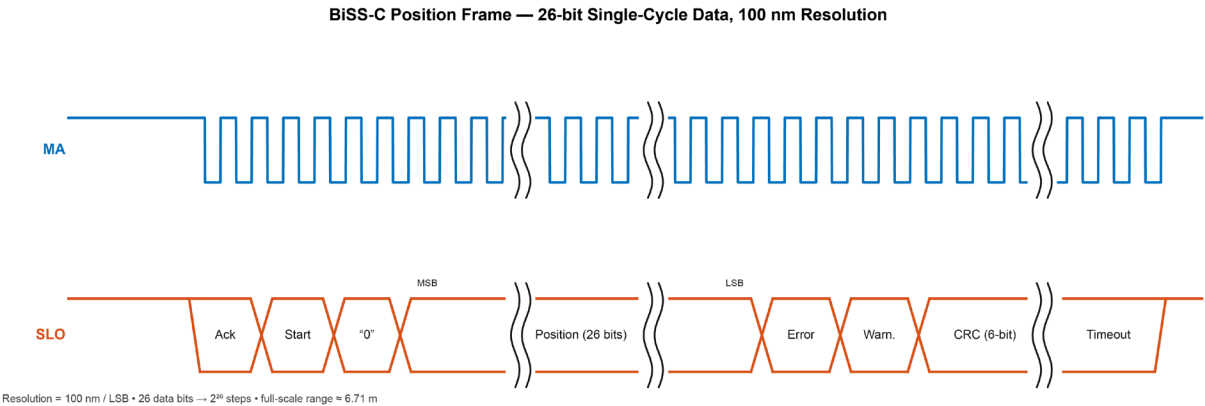

Figure 13. "MM" Encoder Serial Output
The data format for the BiSS C (MM) Encoder feedback is shown in Figure 13.